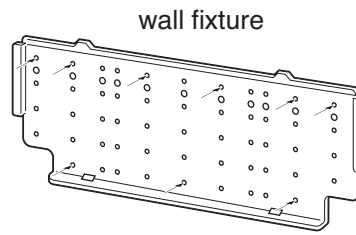

Fig. 3-38
- (1) Attach the wall fixture to the wall with the 9 screws provided. (Fig. 3-38)